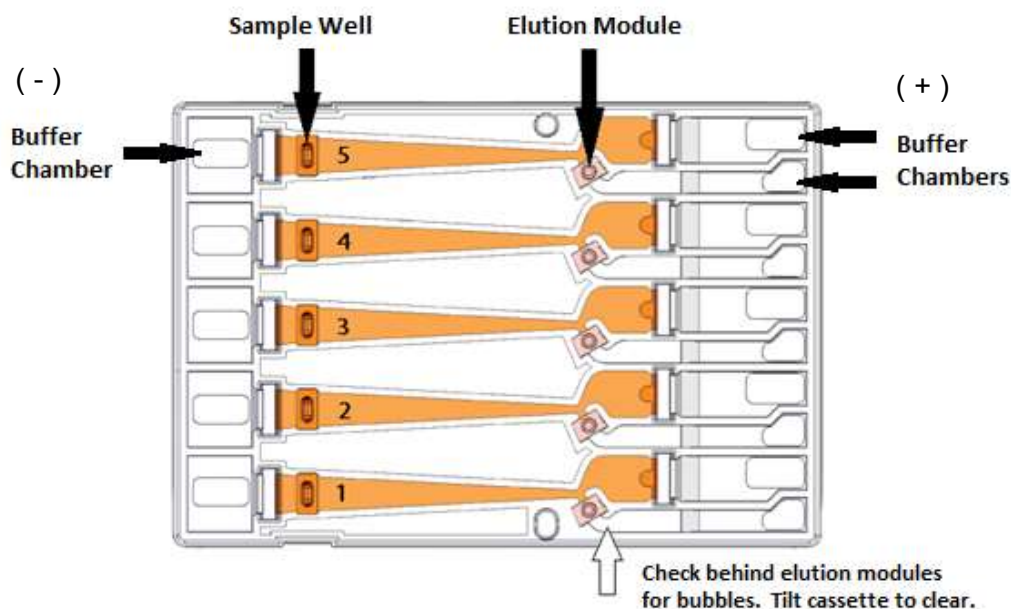

Figure 6.4. A schematic of a Gel Cassette.
1. **Dislodge bubbles from behind the elution wells.** Return the cassette to the right-side up position. Tilt the cassette, sample well side down, to release any trapped bubbles behind the elution modules into the (+) buffer chambers. Gently tap the cassette if necessary. **Figure 6.4**, below, shows location to check for bubbles.
2. **Place Cassette into the Pippin optical nest.** The cassette should be placed into the nest in the orientation shown in **Figure 6.4**, above, with the sample wells to the left side of the nest. When inserting the cassette into the nest, keep the (-) buffer chambers tilted down so that the bubbles in the elution reservoirs won't be trapped behind the elution modules.